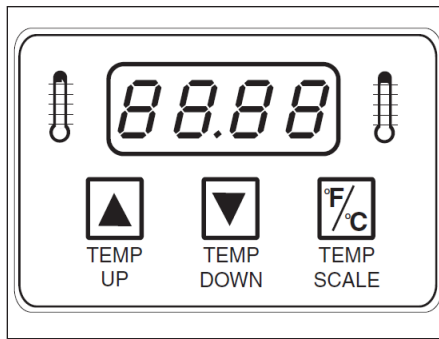

Figure 11. Control Panel - Key Pad
3. When the Display “blinks”, press an UP or DOWN ARROW key to reach the desired set point temperature and then let go. The new set point temperature will now be active (Figure 11).